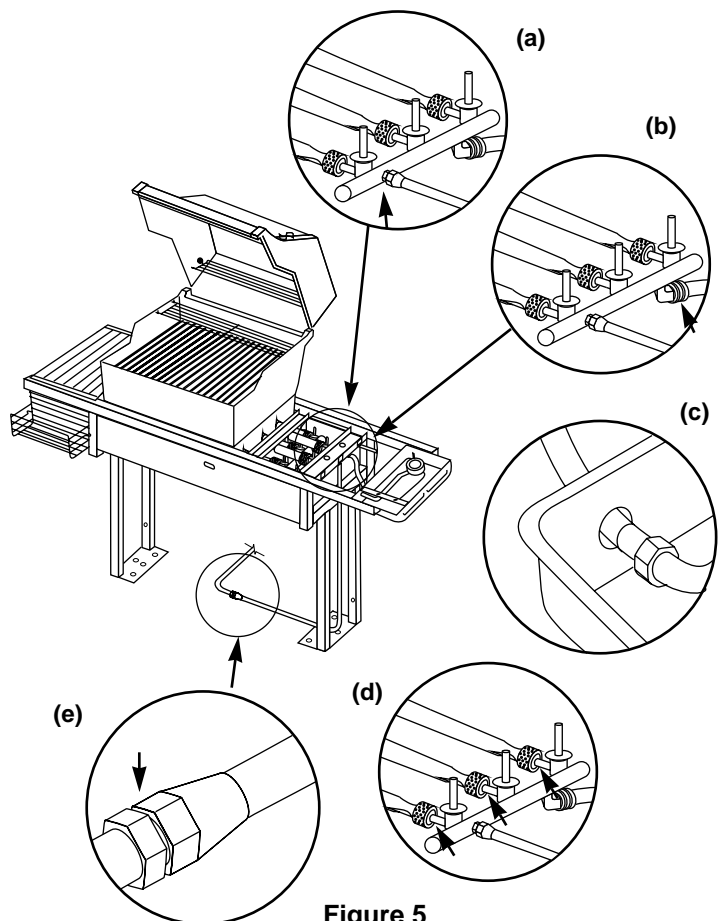

Figure 5
- Gas supply line to manifold connection. Figure 5 (a).
- Manifold to side burner hose connection. Figure 5 (b).
- Side burner hose to side burner connection. Figure 5 (c).
- Valves to manifold connections. Figure 5 (d).
- Barbecue gas supply line to natural gas supply connection. Figure 5 (e).